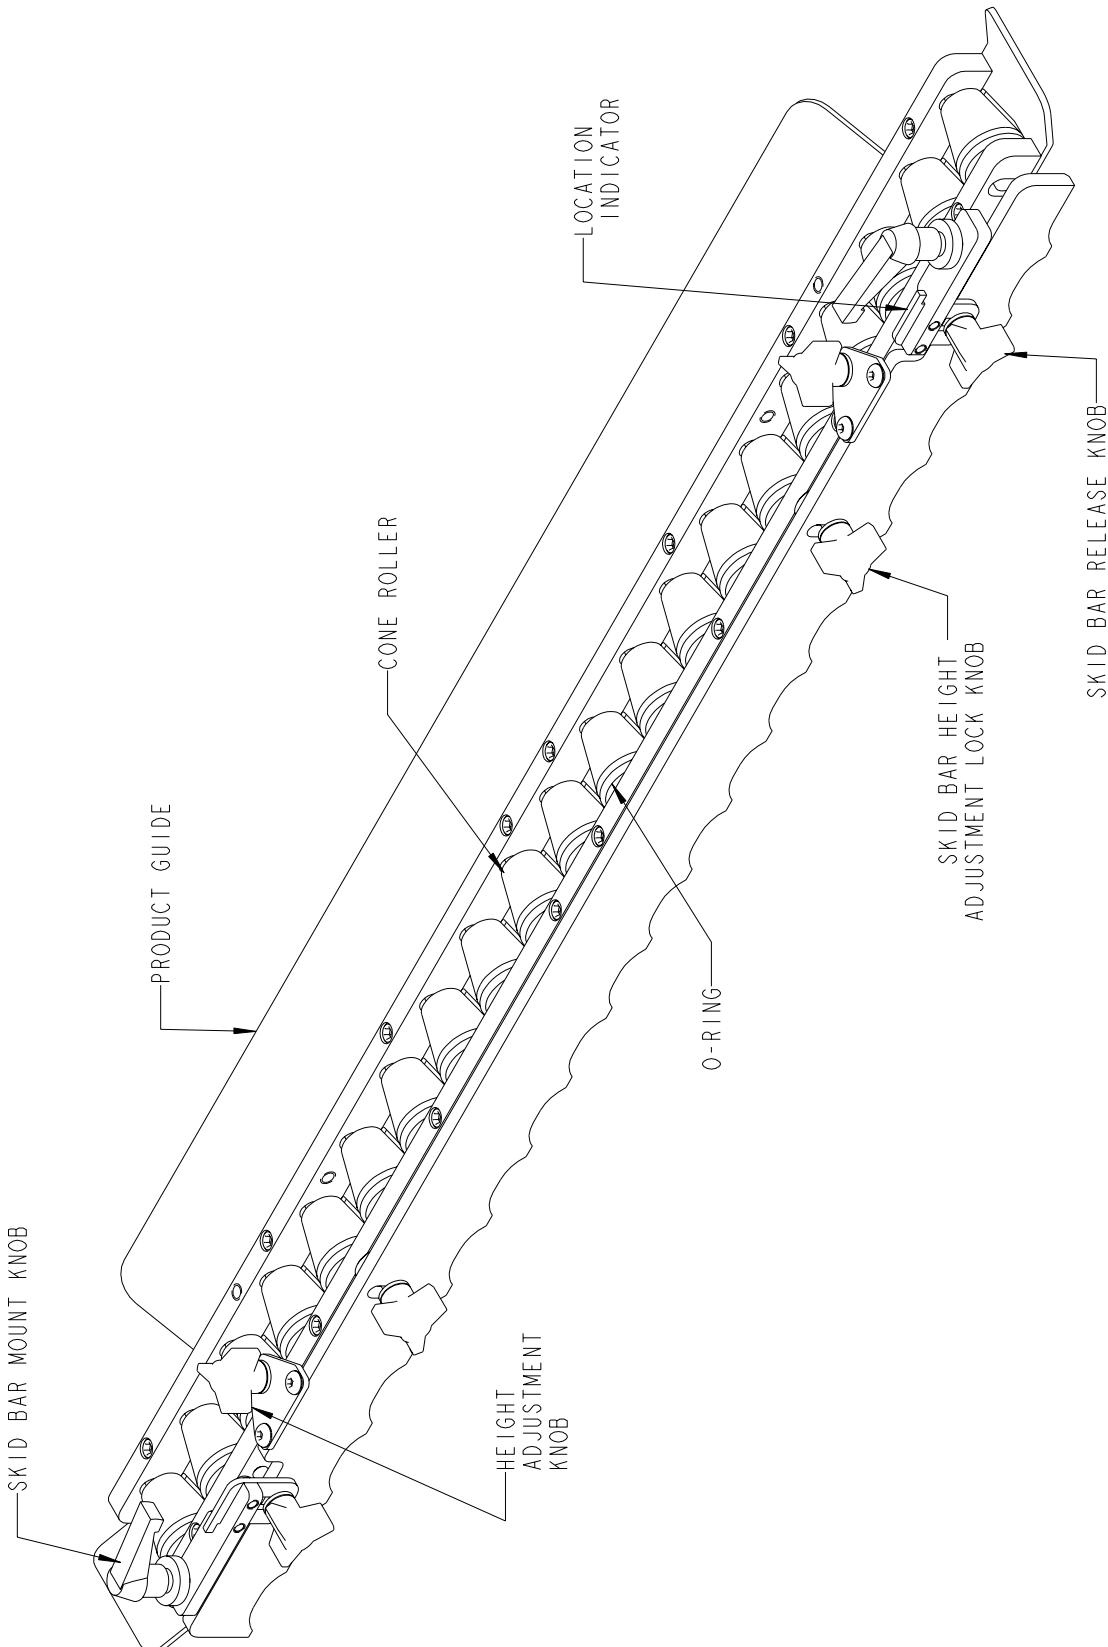

FIGURE 4.0
4.1.3 Cone Skid Bar Assembly Component Description (See Figure 4.0)
3. Remove the skid bar assembly (see **Picture 3**) by removing the skid bar mount knobs (see **Figure 4.0**) and loosening the skid bar release knobs (see **Figure 4.0**). Set aside the skid bar assembly.